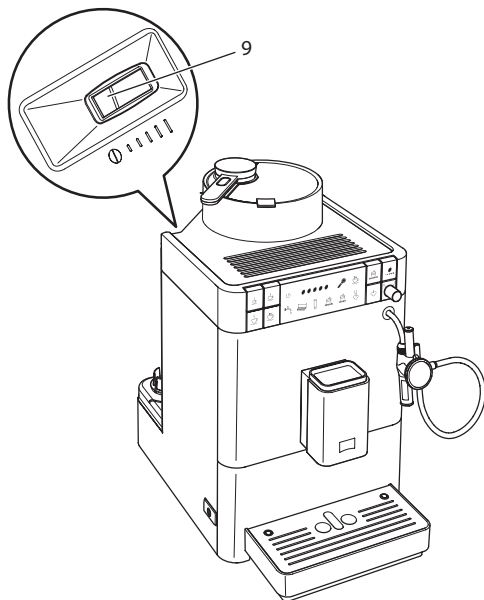

Fig. 14: Lever for setting the grinding fineness (Caffeo® Varianza® CS)
- » The "Grinding fineness adjustment" lever (9) is visible on the housing.
2. Move the lever to the left or right, as shown on Fig. 14.